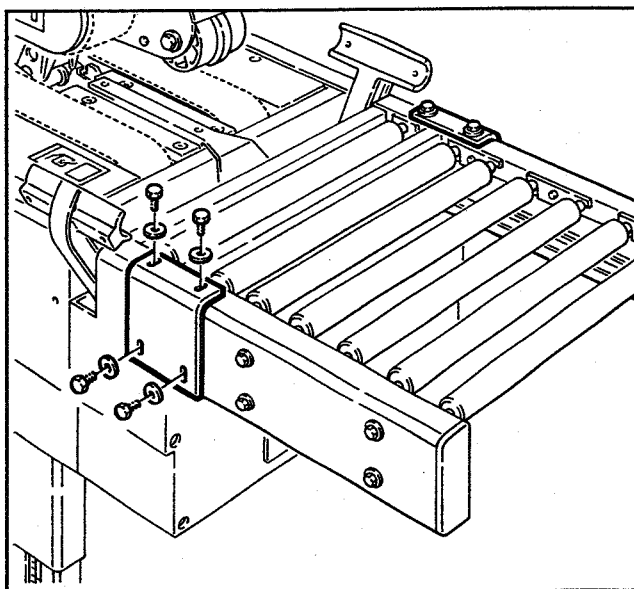

Figure 2-5 - Cover Plates
6. Refer to figure 2-5. Set the cover plates over the joint between the conveyor and the frame on each side and secure them with four M8 x 15 screws and M8 washers.